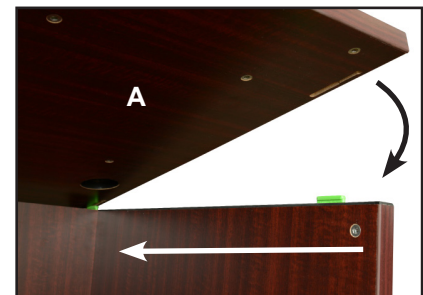

Figure 2
STEP 2: Attach the remaining **Desk Side (C)** to the **Desk Front (B)** by lining up the Eclip with its corresponding holes, and sliding into place.
STEP 3A: Remove Thumb Screw from **Desk Top (A)** before assembly. Next, attach **Desk Top (A)** to the assembled base by lining up the Eclip with its corresponding holes, and sliding into place (see figure 2.)